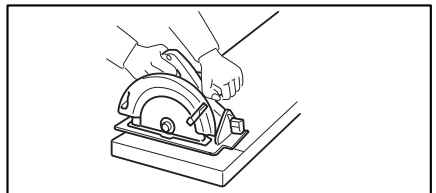
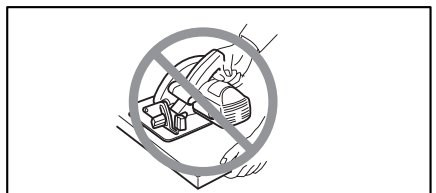

Fig. 5
Fig. 6
16. **Place the wider portion of the saw base on that part of the workpiece which is solidly supported, not on the section that will fall off when the cut is made.** As examples, Fig. 5 illustrates the **RIGHT** way to cut off the end of a board, and Fig. 6 the **WRONG** way. If the workpiece is short or small, clamp it down. **DO NOT TRY TO HOLD SHORT PIECES BY HAND!**